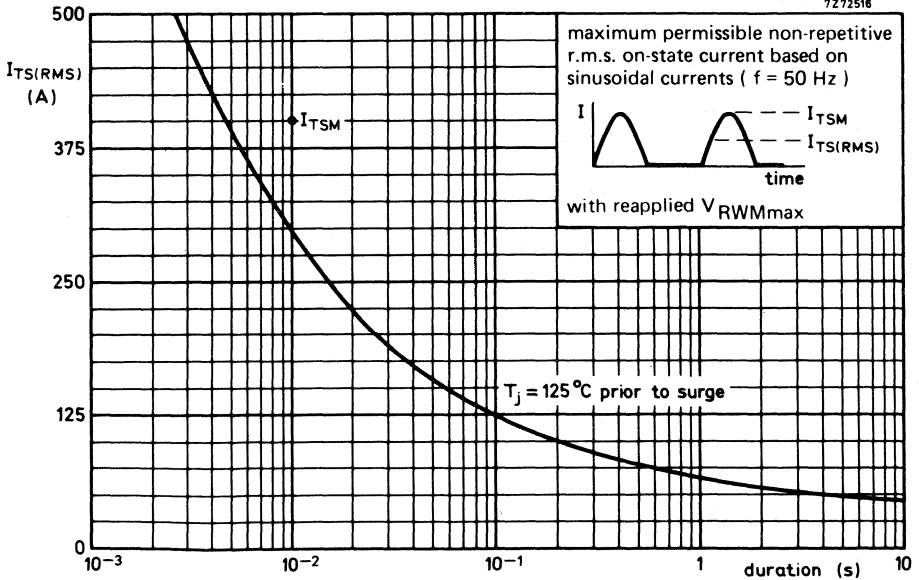

Fig. 3.
* To ensure thermal stability: $R_{th j-a} < 6,5$ °C/W (d.c. blocking) or < 13 °C/W (a.c.). For smaller heatsinks T_{jmax} should be derated. For a.c. see Fig. 3.